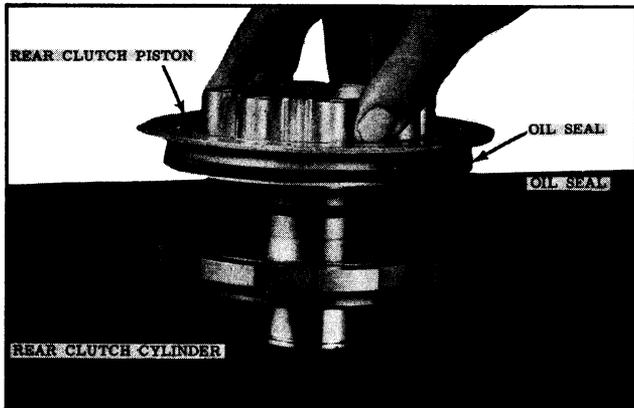

Fig. 3-64 Clutch Piston Removal
20. Remove the clutch piston from the rear clutch cylinder. (See Fig. 3-64)